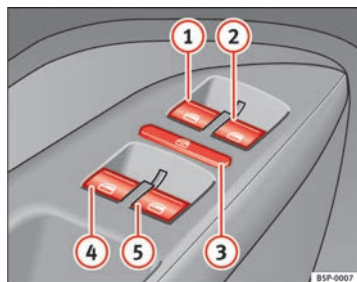

Fig. 69 Detail of the driver door: controls for the front and rear windows
The buttons ⇒ Fig. 69 ① and ② have two levels for opening the window and two for closing it. This makes it easier to open and close windows to the desired position.